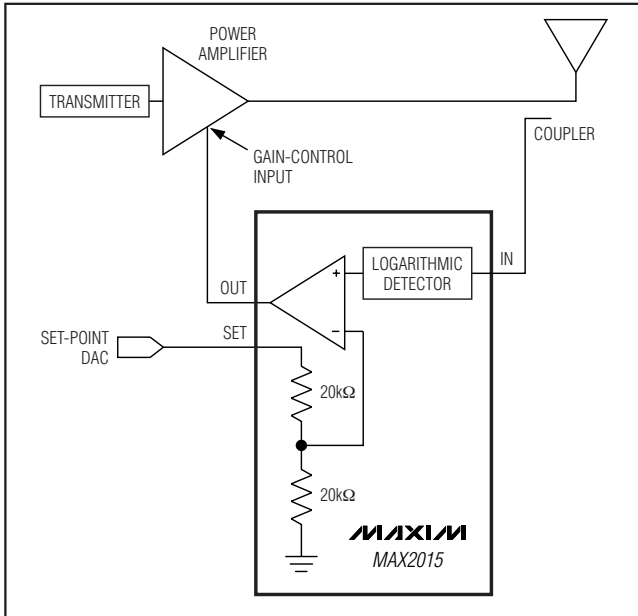

Figure 2. MAX2015 in Controller Mode
For operation in controller mode, remove R1 and set R6 to 0Ω. Use a DAC or external precision voltage supply to apply the set-point voltage to the VSET SMA connector. RF_IN is connected to the RF source (power amplifier (PA) output through a directional coupler) and VOUT is connected to the gain-control pin of the PA (see Figure 2).